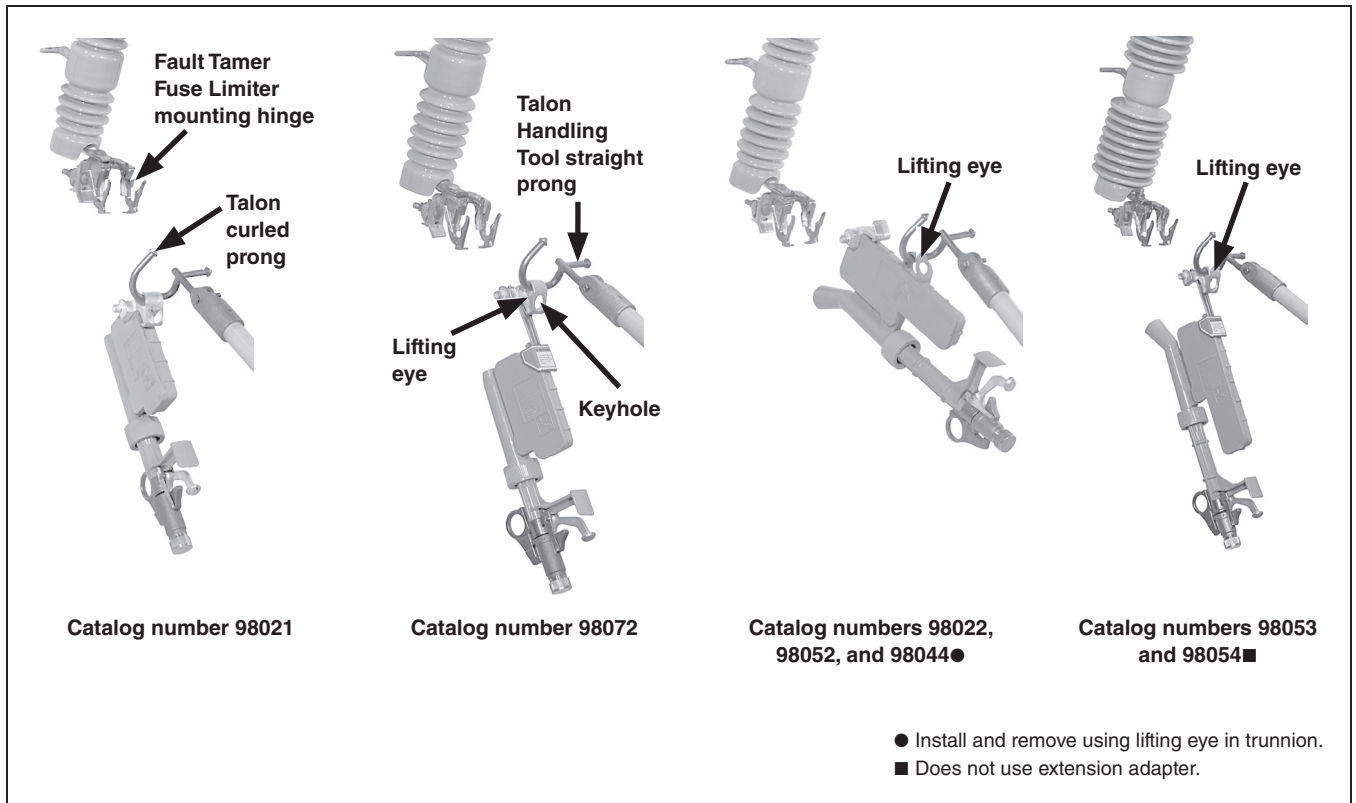

Figure 7. Installing a Fault Tamer Fuse Limiter into a mounting.
- STEP 1.** When a Fault Tamer Fuse Limiter operates, it swings to the **Open** position. Remove it from the mounting using a universal pole and a suitable fuse-handling fitting, such as a Talon™ Handling Tool or a distribution prong. See Figure 7 on page 13
- STEP 1.** Insert the curled prong of a Talon Handling Tool or a distribution prong into the opening of the lifting eye. See Figure 7. Or, as an alternate, insert the straight prong on the Talon tool or a distribution prong into the keyhole opening in the trunnion. For some Fault Tamer Fuse Limiters, the lifting eye is located in the trunnion. For other models, the lifting eye is molded into the backup limiter.
- STEP 2.** Guide the Fault Tamer Fuse Limiter into the hinge of the mounting, as shown in Figure 7. Then, disengage the distribution prong. If a Talon tool is used, rotate the universal pole counterclockwise 180° to disengage.